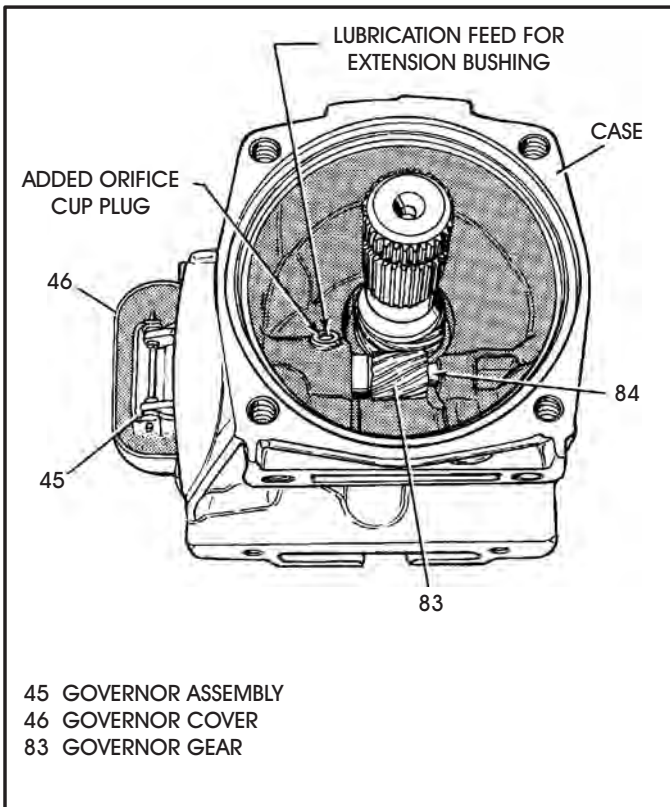

Figure 27
- (d) Orifice cup plug added to the governor pressure passage in rear of case to lubricate the extension housing bushing, as shown in Figure 27.